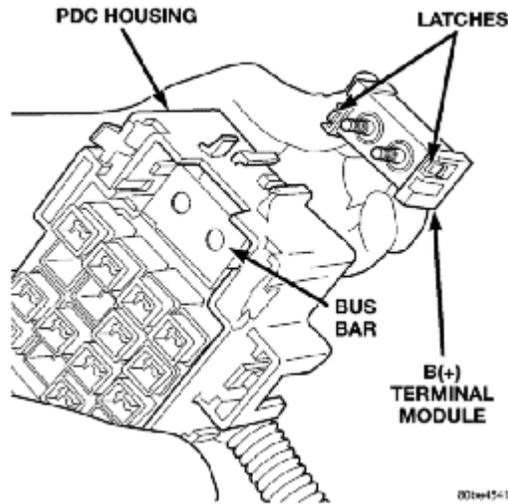

Fig. 6 WJ PDC B (+) Terminal Module Remove/Install
- (3) Gently and evenly press the two B (+) terminal studs down through the bus bar in the PDC.
- (4) From the bottom of the PDC housing, remove the B (+) terminal module from the PDC (Fig. 6).